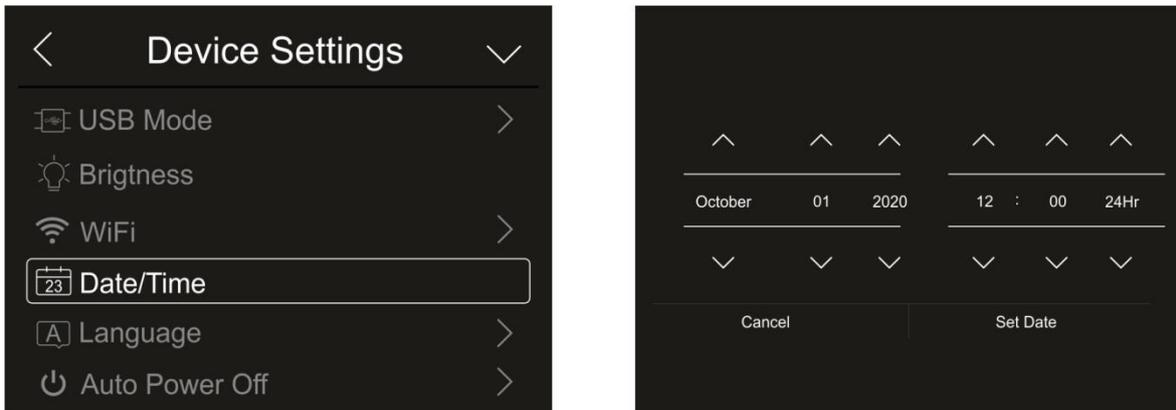

Fig. 16: System date/time setting
1. Touch the item “Date/Time” to set the system's Date/Time. The screen in Fig. 16 – right side appears on the display: